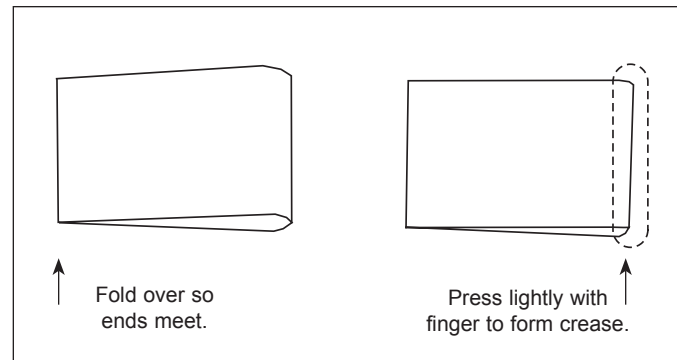

Figure 8. Folding the Release Sheet
4. Lay a new Release Sheet on a clean, dry surface and fold it in half lengthwise. Then gently crease it at the fold using only your fingers (Figure 8).